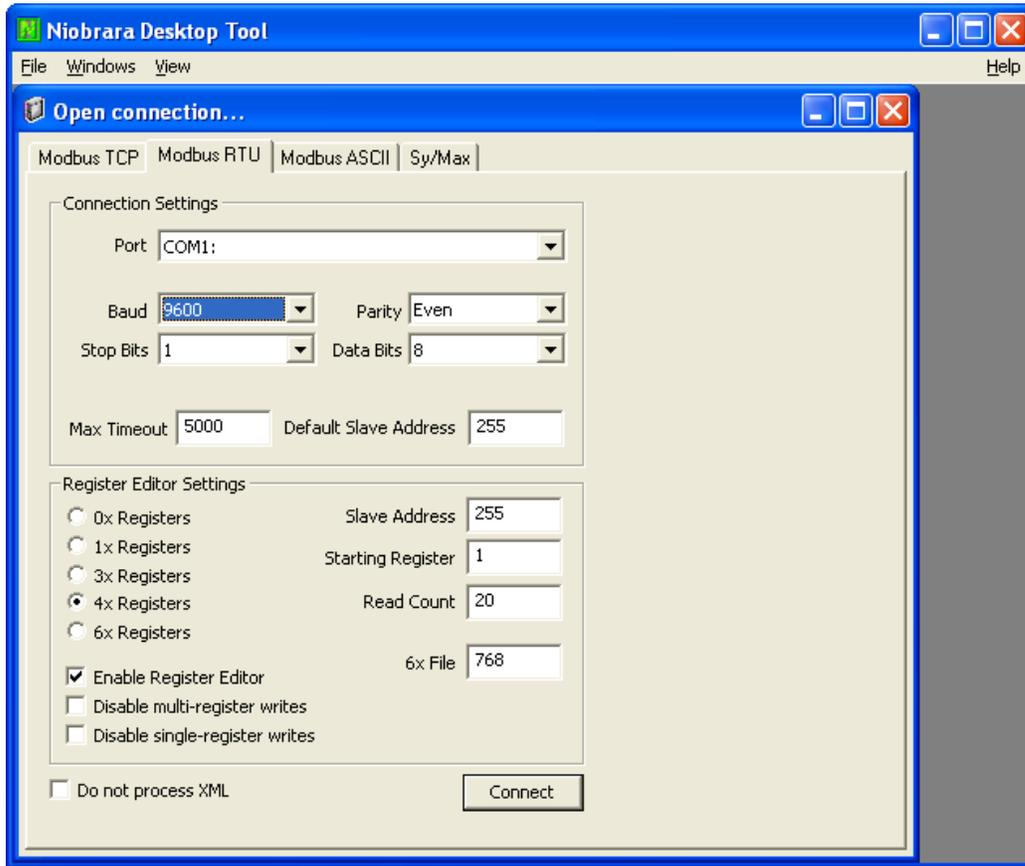
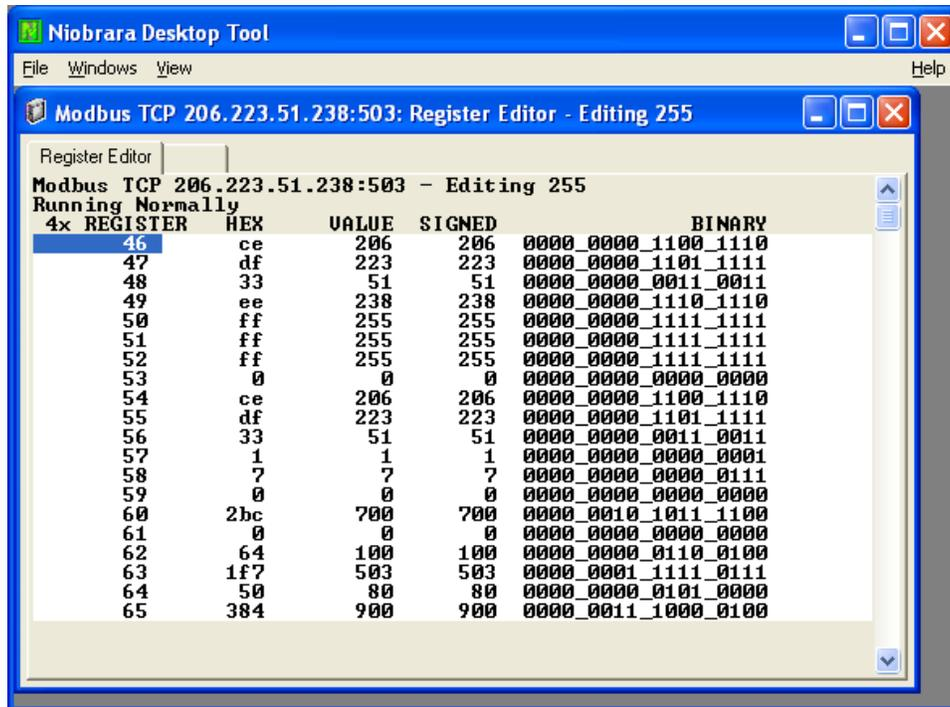

Figure 2-5 Setup NRDTOOL
Figure 2-6 Use NRDTOOL to set IP Address
- 3 In the personal computer, go to Start>All Programs>Niobrara>NrdTool. This will start NRDTTool. Set up NRDTTool as shown in Figure 2-5. Use the arrow and Page Up/Down keys to move to register 46. The IP parameters are shown in Figure 2-6 for a unit with the IP = 206.223.51.238 subnet Mask = 255.255.255.0, Default Gate = 206.223.51.1, Modbus/TCP port number = 503